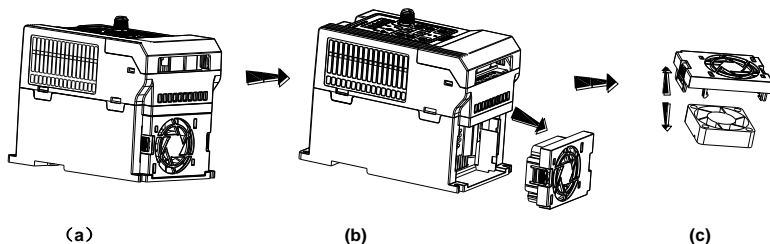

Figure 8-1 Remove the fan
Step1: Hold the elastic buckles on both sides of fan shown as figure 8-1(a), meanwhile use a little harder to pull out in parallel, the fan cover will be removed from inverter.
Step2: Press the elastic buckles of fan lead terminal toward internal side shown as figure 8-1(b), meanwhile pulling out the fan lead terminal with a little harder.
Step3: Please draw out the buckles of fan cover shown as figure 8-1(c), and then use a little harder to separate cooling fan and fan cover.